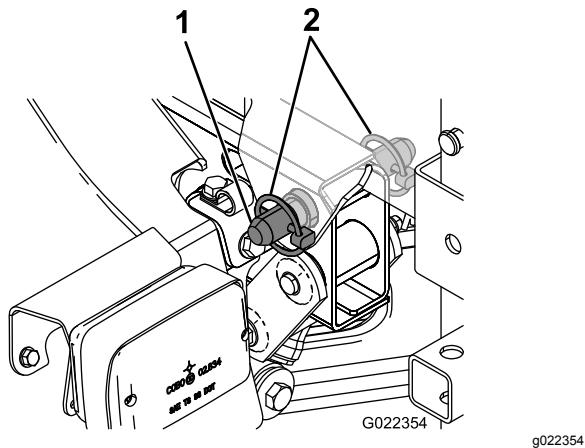

Figure 13
bed pivot tube at the end of the vehicle frame (Figure 13).
7. Install a tapered clevis pin and 2 lynch pins to the pivot lug to secure the tank assembly to the frame (Figure 13).